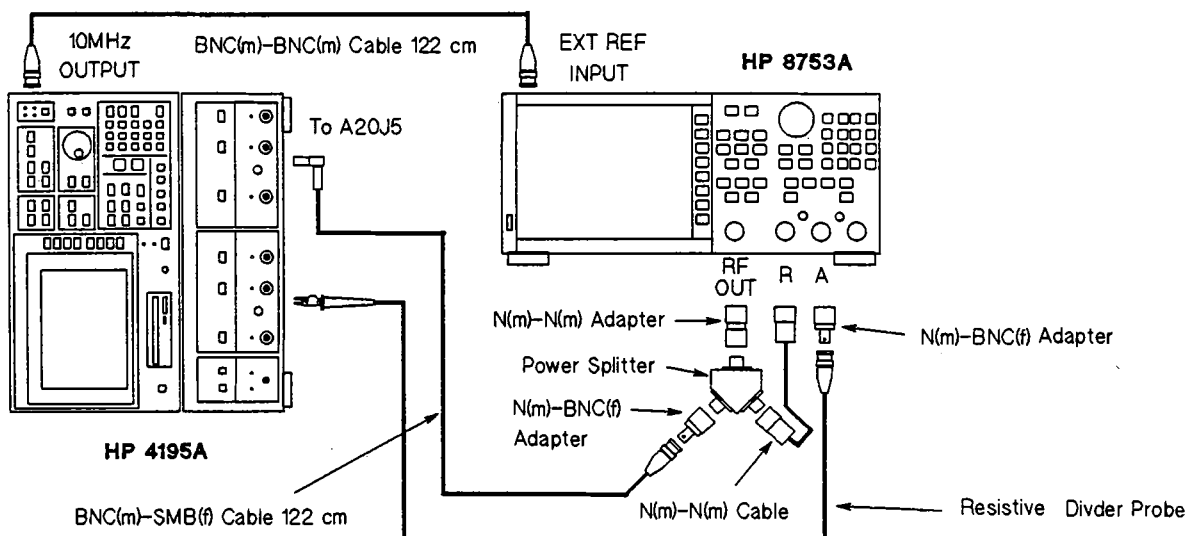
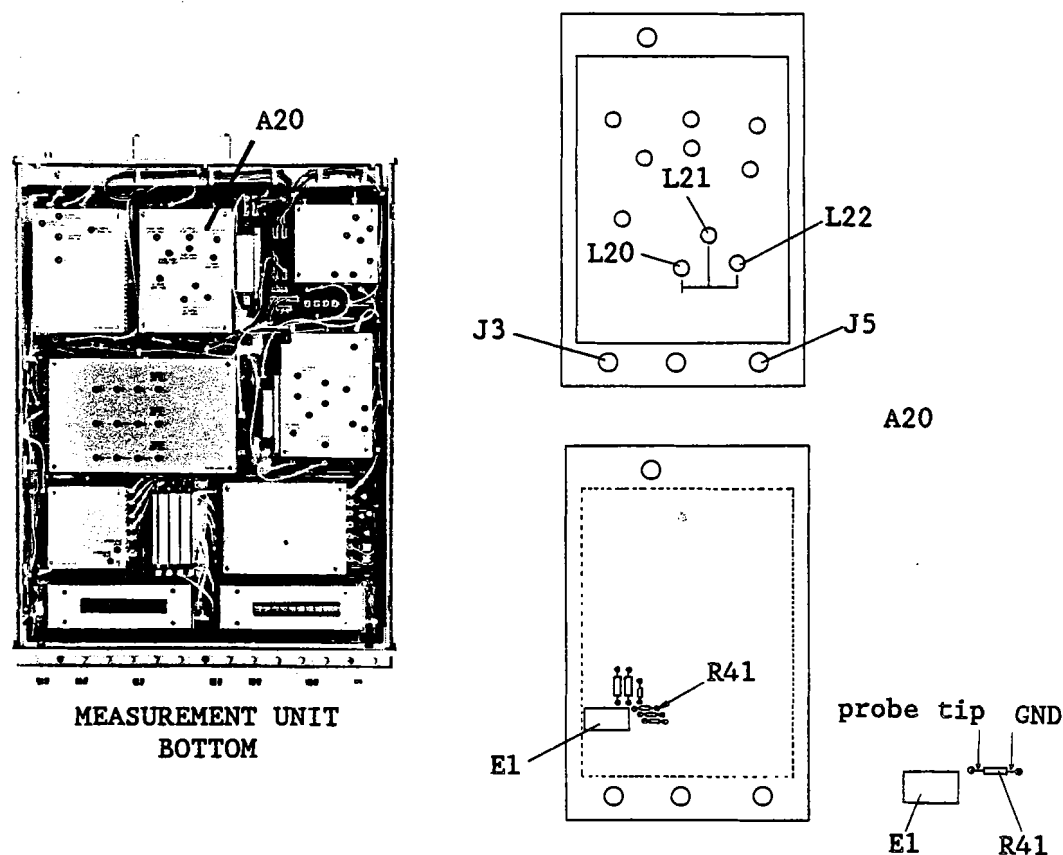

Figure 3-85. Receiver Third IF Converter 86.6 MHz BPF Adjustment Setup
Figure 3-86. Receiver Third IF Converter 86.6 MHz BPF Adjustment Locations
1. Remove the shield cover on the A20 board. Disconnect the cable (S) from A20J3. See Figure 3-86 for the location of A20J3.
2. Connect the equipment as shown in Figure 3-85. See Figure 3-86 for A20J5 location.
5. Connect the Probe ground lead to the grounded lead of A20R41, and connect the tip of the probe to the other lead of A20R41. See Figure 3-86 for the probe locations.